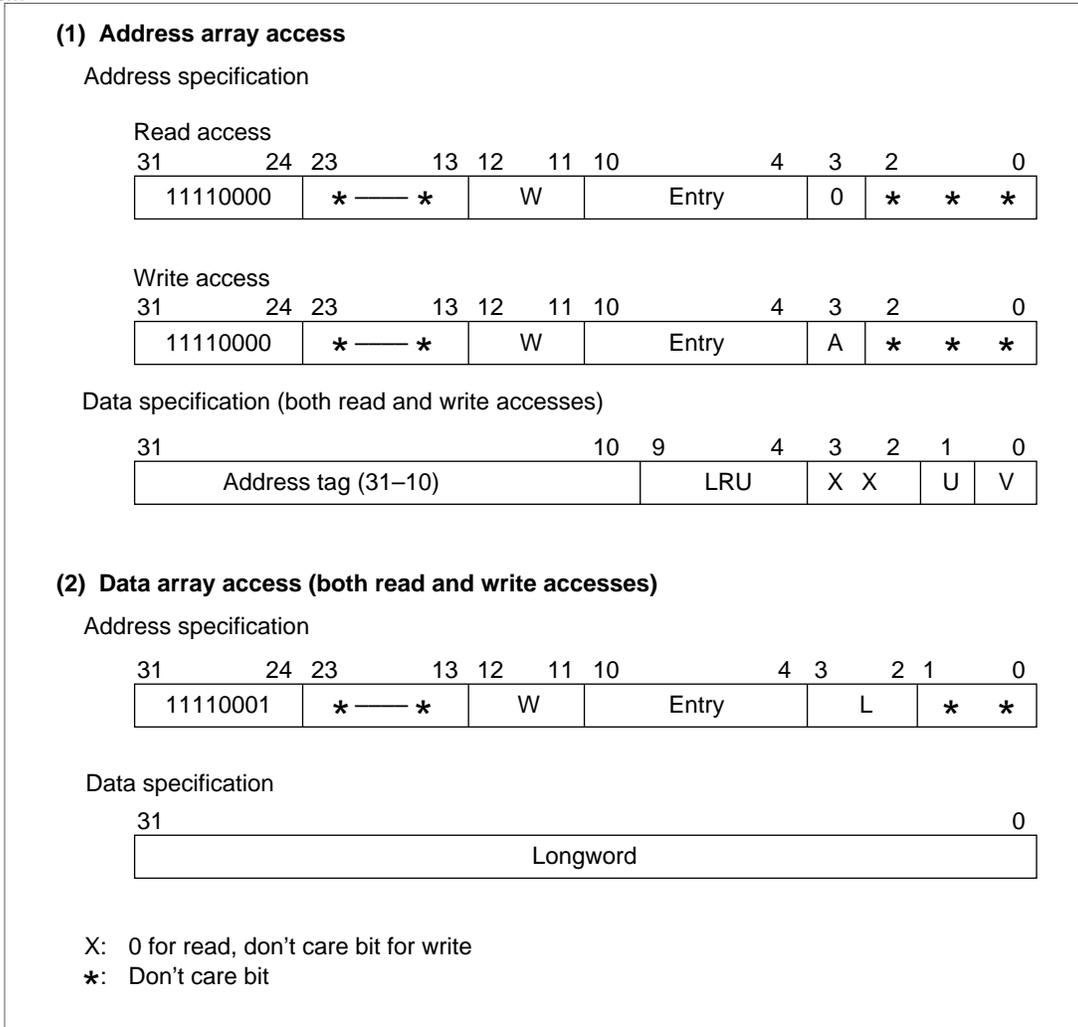

Figure 5.5 Specifying Address and Data for Memory-Mapped Cache Access
The address array is mapped onto H'F0000000 to H'F0FFFFFFF. To access an address array, the 32-bit address field (for read/write accesses) and 32-bit data field (for write accesses) must be specified. The address field specifies information for selecting the entry to be accessed; the data field specifies the address, V bit, U bit, and LRU bits to be written to the address array (figure 5.5(1)).
When writing, specify bit 3 as the A bit. The A bit indicates whether addresses are compared during writing. When the A bit is 1, the addresses of the four entries selected by the entry addresses are compared to the addresses to be written into the address array specified in the data field. Writing takes place to the way that has a hit. When a miss occurs, nothing is written to the address array and no operation occurs. The way number (W) specified in bits 12–11 is not used. When the A bit is 0, it is written to the entry selected with the entry address and way number without comparing addresses. The address specified by bits 31–10 in the data specification in figure 5.5 (1), address array access, is a virtual address. When the MMU is enabled, the address is translated into a physical address, then the physical address is used in comparing addresses when the A bit is 1. The physical address is written into the address array.
When reading, the address tag, V bit, U bit, and LRU bits of the entry specified by the entry address and way number (W) are read using the data format shown in figure 5.5 without comparing addresses. To invalidate a specific entry, specify the entry by its entry address and way number, and write 0 to its V bit. To invalidate only an entry for an address to be invalidated, specify 1 for the A bit.
The data array is mapped onto H'F1000000 to H'F1FFFFFF. To access a data array, the 32-bit address field (for read/write accesses) and 32-bit data field (for write accesses) must be specified. The address field specifies information for selecting the entry to be accessed; the data field specifies the longword data to be written to the data array (figure 5.5 (2)).
This example reads the data section of a specific cache entry. The longword indicated in the data field of the data array in figure 5.5 is read to the register. R0 specifies the address and R1 is read.